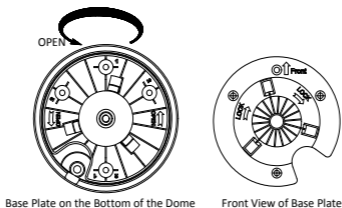
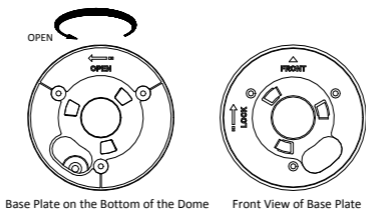

Figure 2-26 Base Plate for DE2xxx Series PTZ Camera
Figure 2-27 Base Plate for DE2xxx Series (IR) PTZ Camera
1. Rotate the base plate counterclockwise to separate it from the PTZ camera, as shown in Figure 2-26 and Figure 2-27.